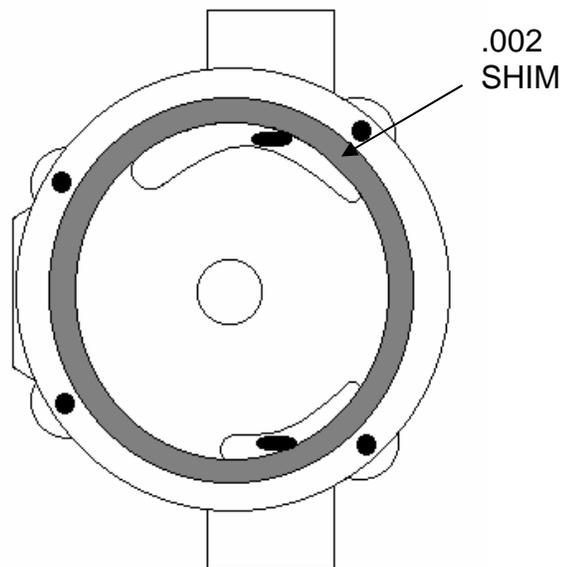

Figure 3
3. Remove the four Allen head screws and lock washers that secure the pump cover assembly to the pump housing and remove the cover carefully. **CAUTION: Use a spill cloth when removing the cover, as there may be some gasoline inside the pump cavity. NOTE: There might be a .002 thick circular shim (silver in color) installed on the inside of the cover (See Figure 3). If there is, remove it and discard. SEE ADDITIONAL CAUTION NOTE REGARDING SEAL WASHER ON BACK.**